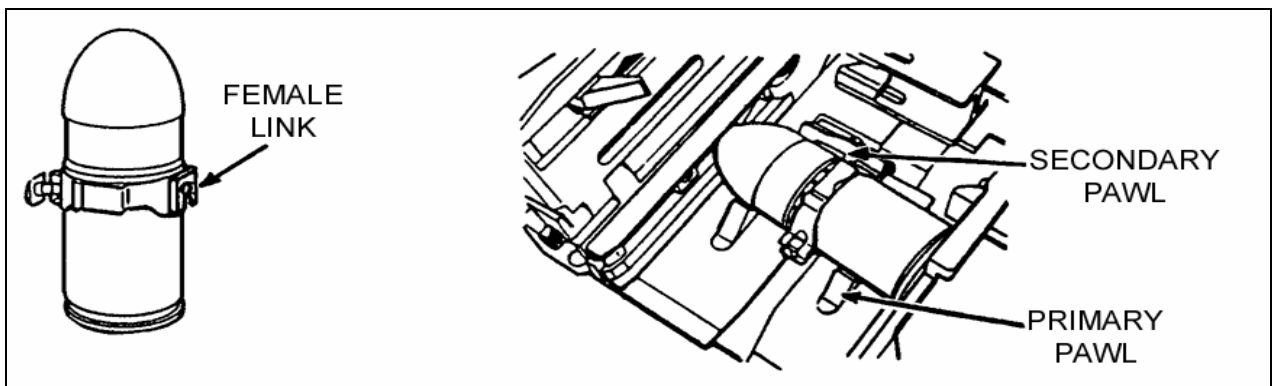

Figure 2-27. Loading of first round.
- (1) Insert the first round into the feeder (female link first) (Figure 2-27).